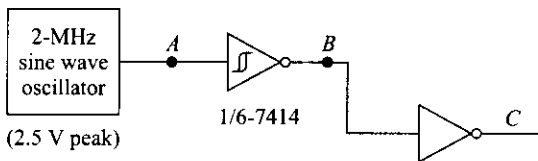

Fig. 7.24
- 7.11 Draw carefully the waveforms at points A , B , and C in Fig. 7.24.